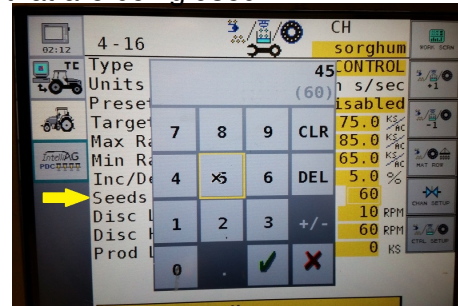

Figure 16
Step 11. Select **Seeds per Rev** and enter. (Figure 16) This is the number of cells on your seed plates you are running in the meters.